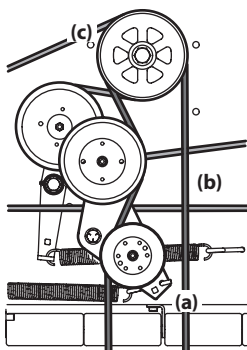

Figure 4-15
3. Using a ½" drive in the idler pulley bracket (a), turn the wrench towards the right of the tractor and slide the PTO belt (b) off the PTO pulley (c). See Figure 4-15.